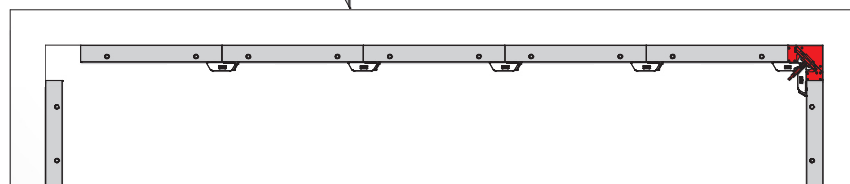

Fig. 27.4
3. Lift the stripping corners off, then strip the panels (Fig. 27.4).